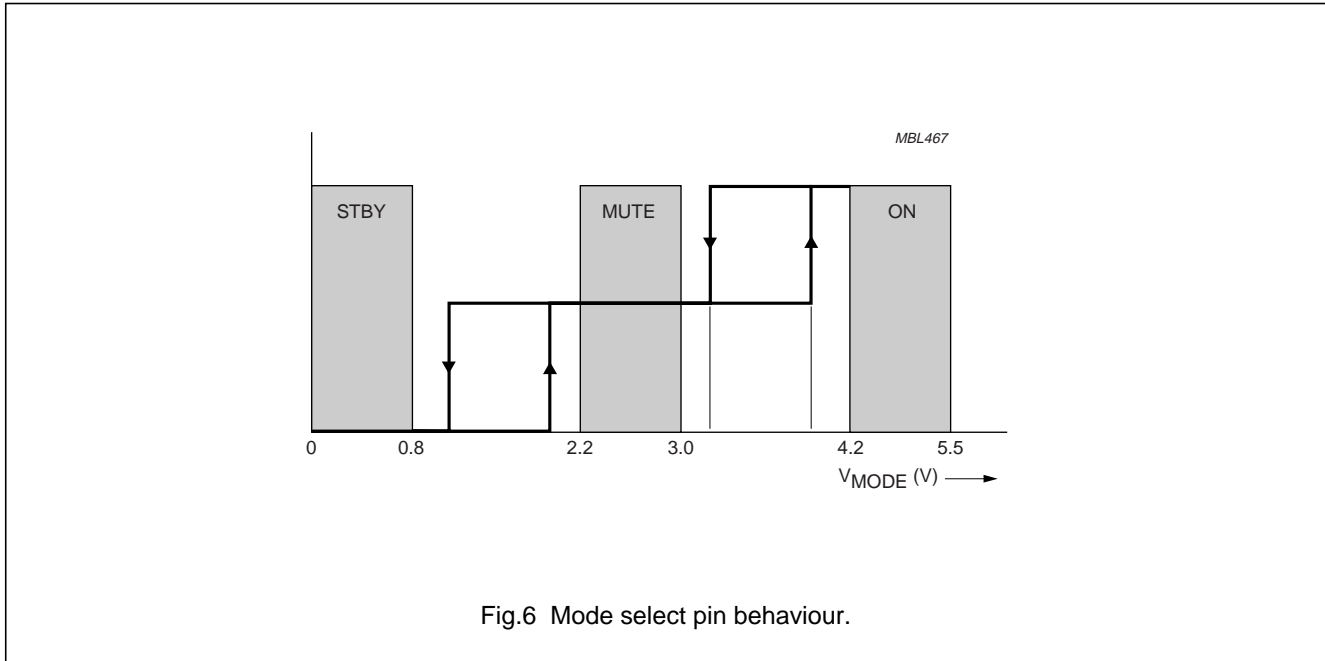

Fig.6 Mode select pin behaviour.
3. The transition regions between standby, mute and on contain hysteresis (see Fig.6).